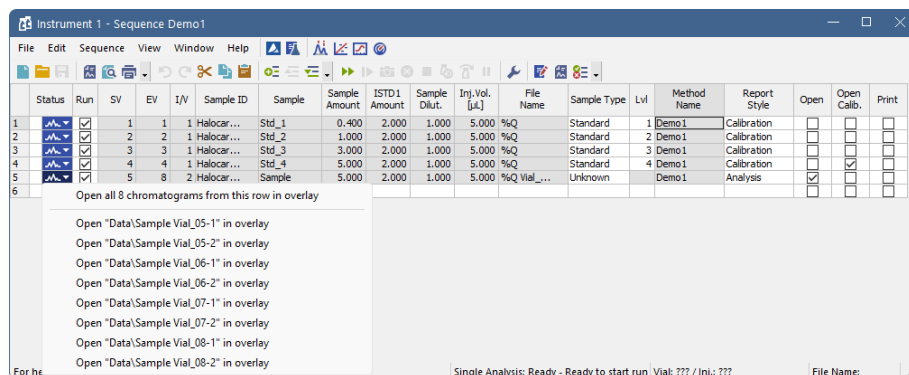

Fig. 12: Opening chromatograms in overlay
- Already measured rows will change their *Status* from green field () to icon with small chromatogram (). During the measurement, the icon is orange. A small triangle will appear in the icon () if a chromatogram is produced by the particular measurement in the row. Left mouse click on the triangle will reveal the option to open the chromatogram(s). You can click on the name of the chromatogram to open it or select option to open all chromatograms in overlay as seen in **Fig. 12** on pg. 20.